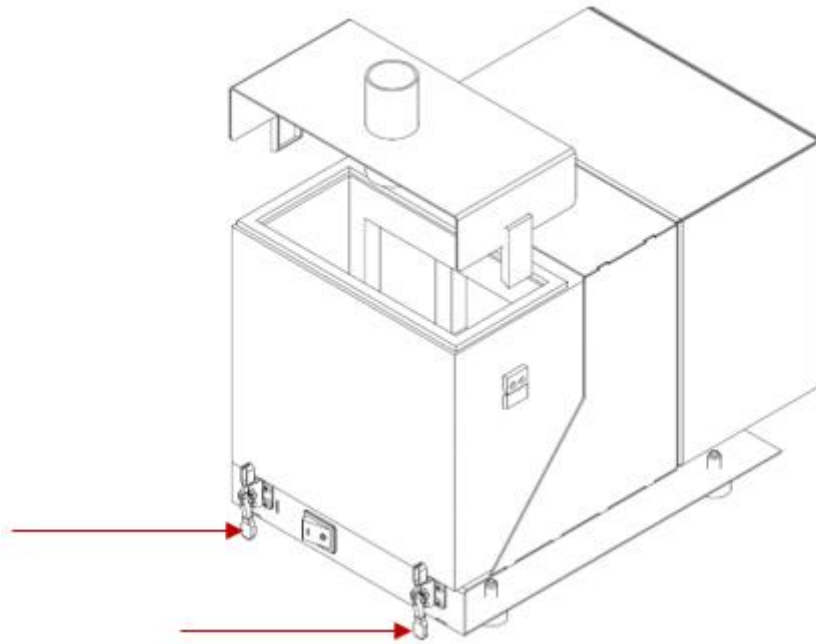

Fig. 135 Clasps fixing the cassette
6. Open the two clasps securing the cassette to the filter base (Fig. 135).